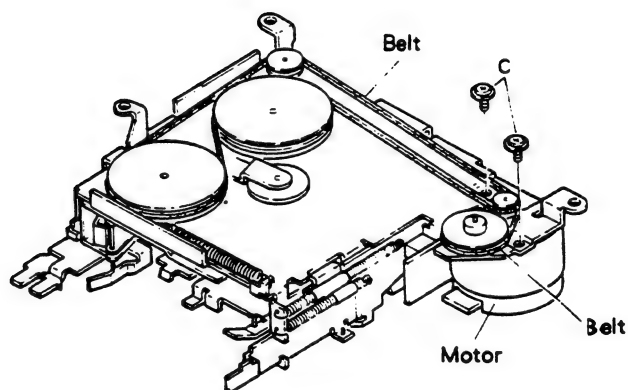

Fig.3
3. The belt can now be removed. (Fig.3)
4. Remove two screws C. The motor can be removed. (Fig.3)